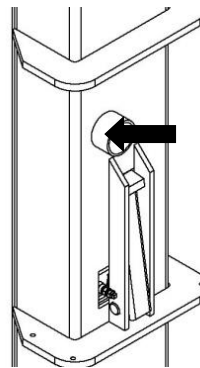

FIGURE 24 : PROTECTIVE COVER
1. LEVELLING VALVE PROTECTIVE COVER (RED) ON MASTER COLUMN. SEE **FIGURE 24**.